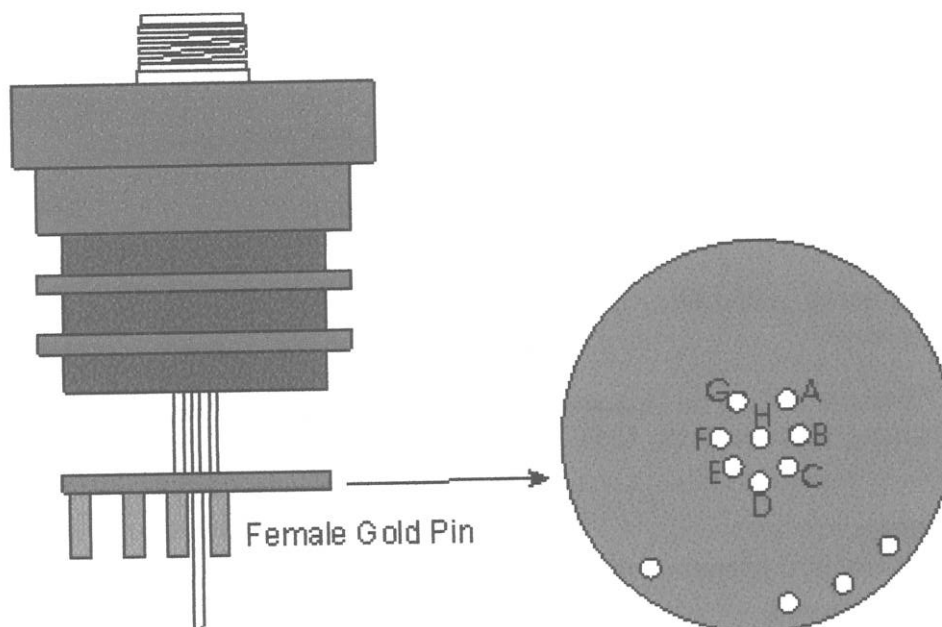

Figure 4-30: Assembly of board into the preamp head
4. Locate pin-to-pin connection of the 2.2 in bare wires to the board (Figure 4-30). Insert the wires into the board with the front end first. Solder the long center wire H. Then solder A, B, C, D, E, F, and G. Make sure that the board is aligned with the Preamp Head.